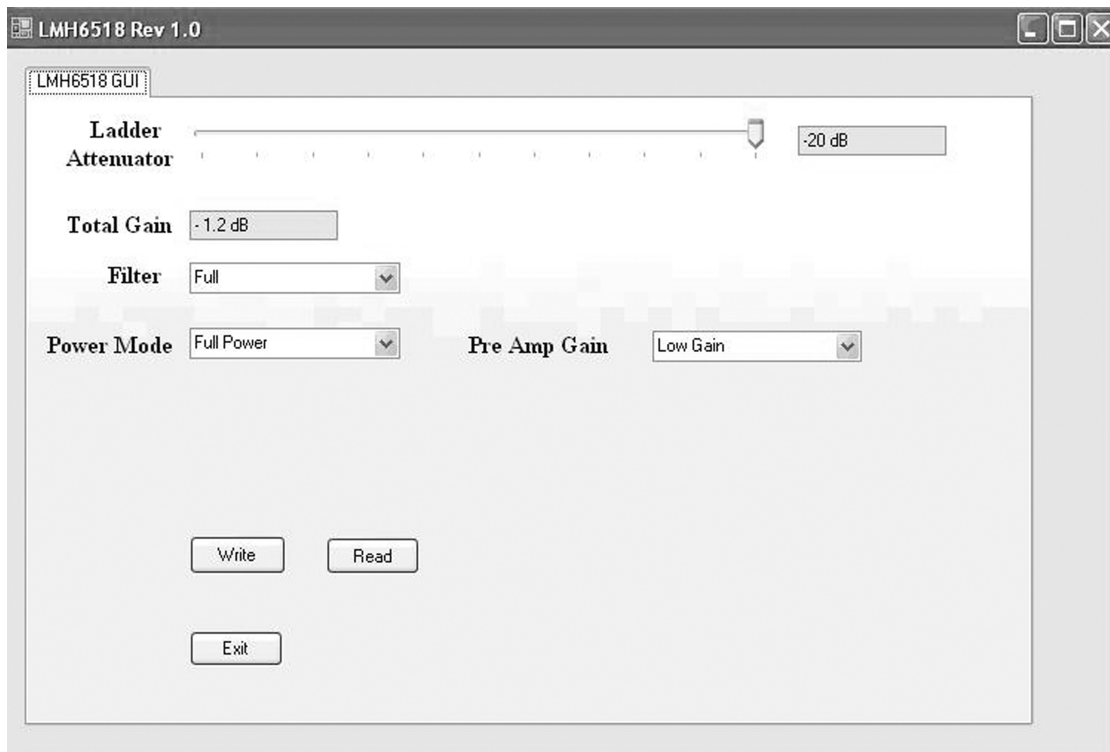

Figure 3. Evaluation Software Screen Shot
- Plug the USB Interface board to a free USB port, with the other end mating with the USB port on the USB Interface board, and launch the LMH6518 software, if not already. If a pop-up window appears, click "yes to upload the correct setup to the USB Interface board and you are now ready to control the LMH6518. When the application is running, you should see "USB Connected All ACK" in the Status Bar at the bottom-left of the LMH6518 software window shown in Figure 3. If the status bar message does not appear, un-plug the USB cable and reapply to reinitiate the USB Interface board and until the proper message appears.